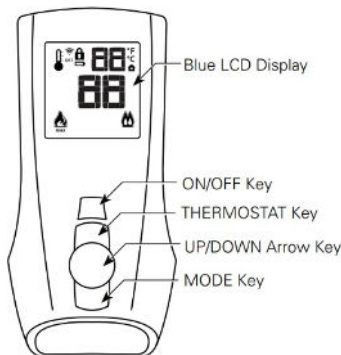
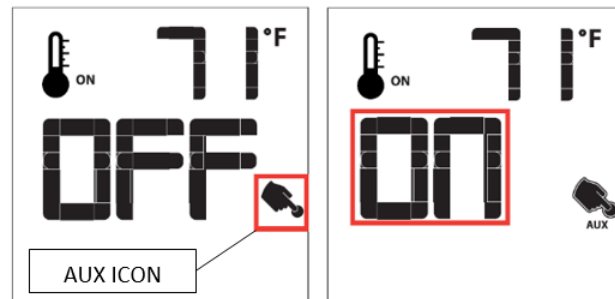
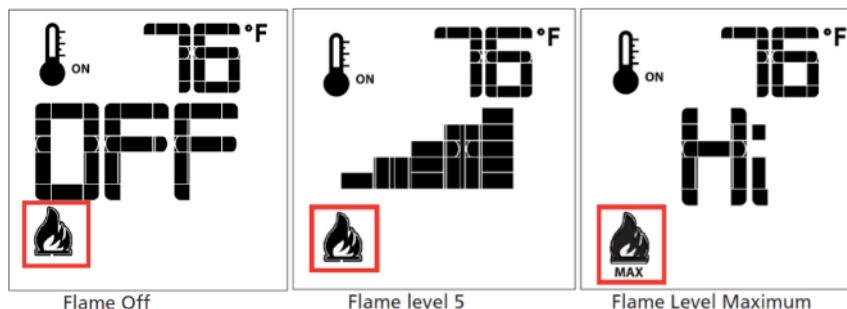
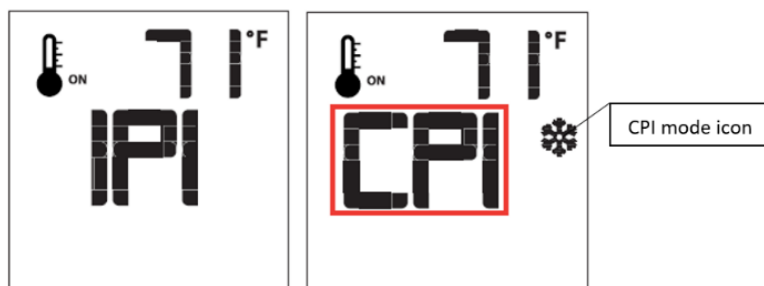

FIGURE 53
FIGURE 54
FIGURE 55
FIGURE 58
Press the **"ON/OFF"** key on the remote (**Figure 53**). A single beep from module will confirm command. Press the **"MODE"** Key until **AUX** icon is visible (**Figure 54**). Press the **"Up Arrow Key"** to turn the **AUX** to **ON** and activate the Meridian Control Panel to power on the fan and damper. Press the **"MODE"** Key until **Flame Level** screen appears (**Figure 55**) then press the **"ON/OFF"** key to turn off system. The fireplace system will now initialize once the remote **"ON"** key is pressed.
The system has six (6) flame levels. See (**Figure 55**) for an example. With the system on, and the flame level at the maximum in the appliance, pressing the **"Down Arrow Key"** once will reduce the flame height by one step until the flame is turned off. The **"Up-Arrow Key"** will increase the flame height each time it is pressed. If the **"Up Arrow Key"** is pressed while the system is on, but the flame is off, the flame will come on in the high position (**Figure 55**). A single "beep" will confirm reception of the command.
With the system in the “OFF” position, press the “**Thermostat**” Key and the “**Mode**” Key at the same time (Figure 53). Look at the LCD screen on the Remote to verify that a °C or °F is visible to the right of the Room Temperature display (Figure 56).
The IPI selection is the intended setting for the appliance operation. If remote is in CPI mode, it must be returned to the IPI mode. To turn it back the remote needs to be OFF. With the system in the OFF position, press the Mode Key (Figure 53) once to index to the CPI mode icon. Pressing the DOWN Arrow Key will return to IPI. A single “beep” will confirm the reception of the command (Figure 58).